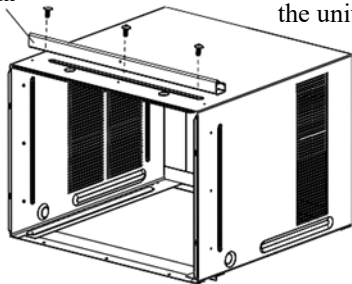

Fig. 8
1. Attach the top mounting rail to the unit with short screws (Fig.8).